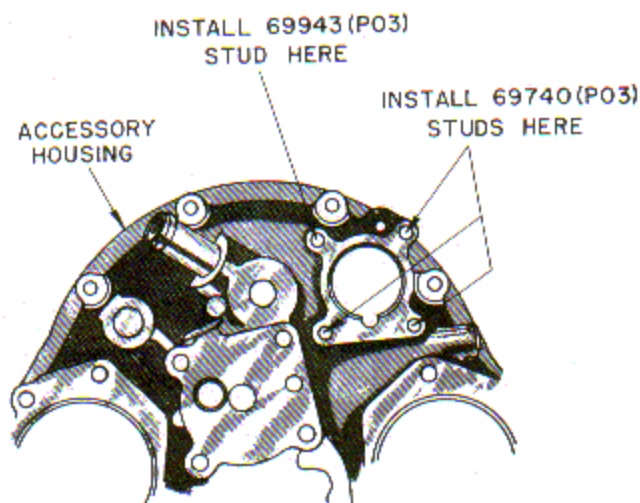

Figure 5-6. Vacuum Pump Pad Stud Modification
b. Remove all four studs from the vacuum pump mounting pad and install three 69740 (P03) studs, to a height of 3.34 inches, and one 69943 (P03) stud, to a height of 0.83 inch in the pad at the locations shown in figure 5-6.